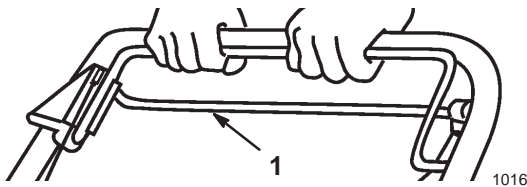

Figure 12
2. To disengage the self-propel drive, release the self-propel bail (Fig. 12), then push the lawn mower forward manually at least one inch (2.5 cm).